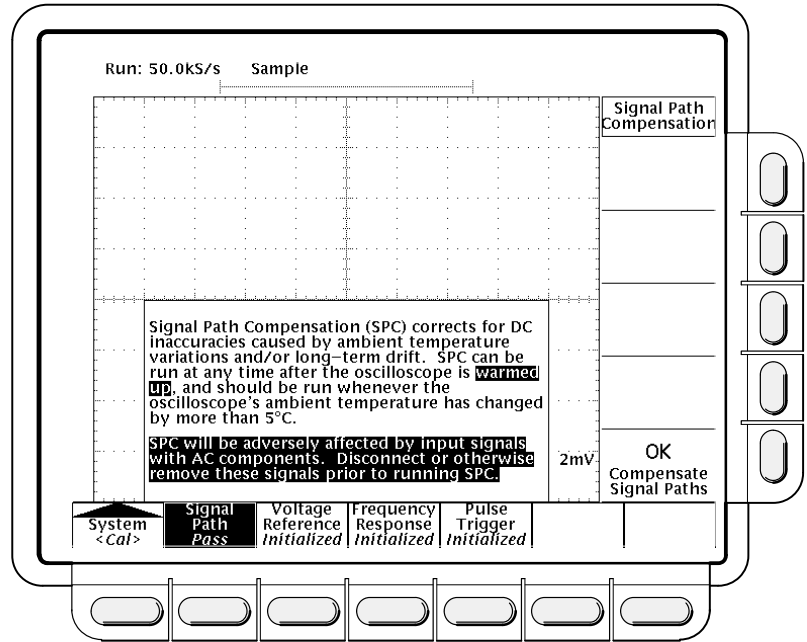

Figure 3-68: Performing a Signal Path Compensation
5. Verify the word **Pass** appears under **Signal Path** in the main menu. (See Figure 3-68.)